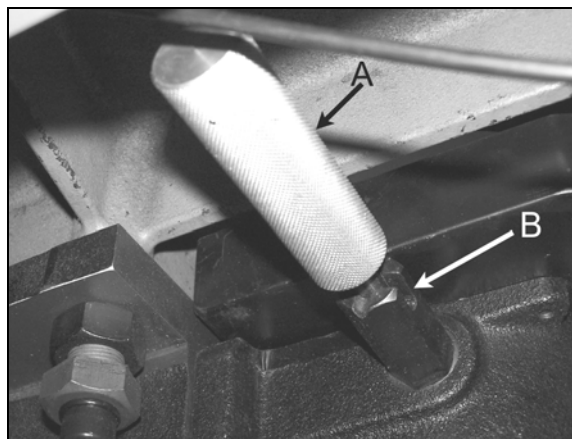

Figure 8
6. Open the cabinet door and find the spindle lock (A, Figure 8). Pull and rotate the spring loaded handle until the pins engage into the notches (B, Figure 8).